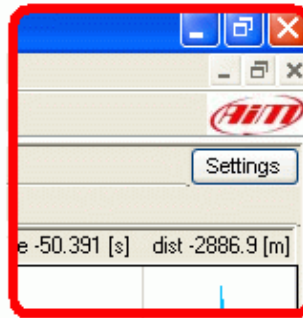

Figure 4 – Settings button – (particular of the main window).
1. using “Settings” button, top right of suspension analysis window (**Figure 4**);
The window is divided in two panels (red and green circled in **Figure 4**). Graph parameters are set through the right panel (green circled) while single test parameters are set through the left one (red circled).